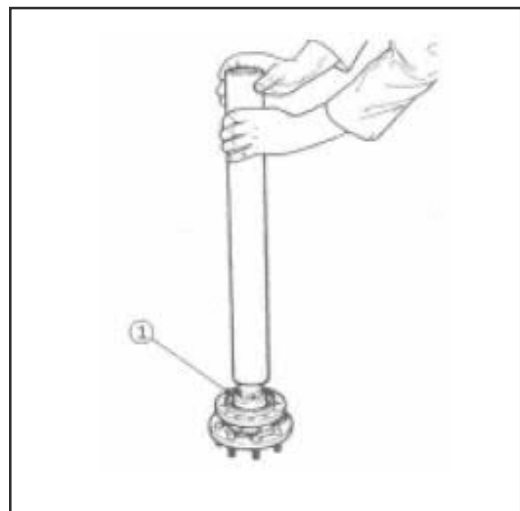

Fig. 8
9. Quickly drive the bearing retaining collar into position with a steel tube so that the hub and bearing assembly is held tightly in position. Ensure there is no gap between the collar and bearing cone (Item 1 in Fig 8) check with feeler gauge.